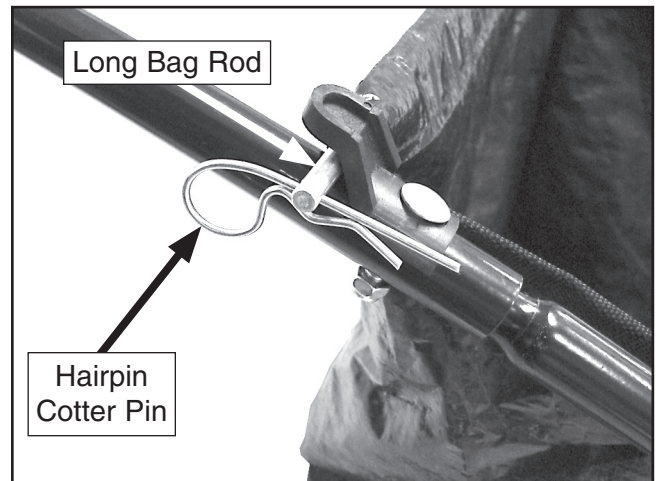

Figure 5. Securing long bag rod.
3. Secure the long bag rod using the hairpin cotter pins, as shown in **Figure 5**.